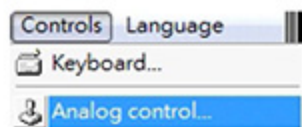
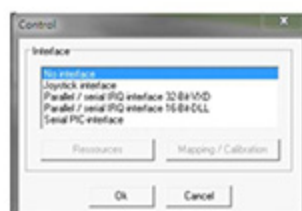
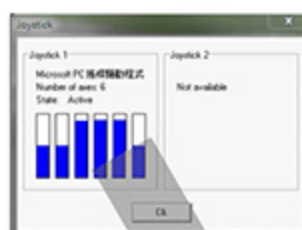
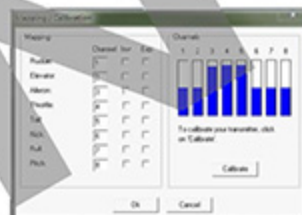

Figure 1
Figure 2
Figure 3
Figure 4
3. Click Analog control in Controls(Figure 1), choose Joystick interface(Figure 2), press Resources then the transmitter information will show(Figure 3), press Mapping/Calibration can set up the channel and operate calibration(Figure 4). Press [OK] after setting to start simulator flight.